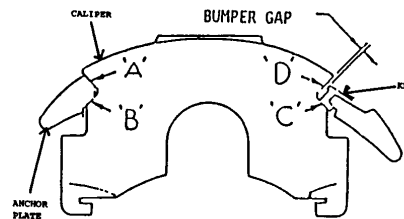

FIGURE 3
5. Insert a suitable prying tool between the caliper and support key making certain the tool is equally distant from each edge of the caliper. Pry firmly to assure that the caliper is seated against the three (3) sliding surfaces (A, B & C) illustrated in Figure 3.